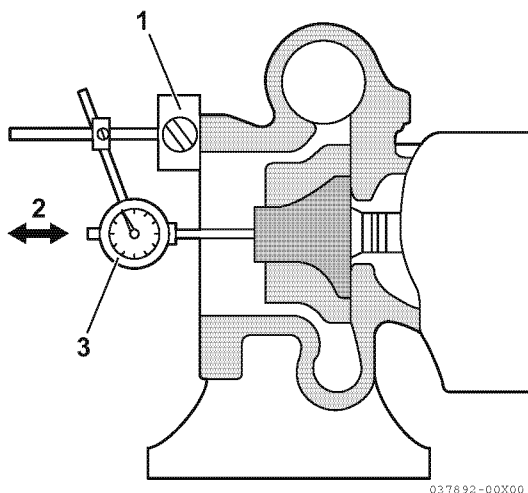

Figure 10-4
1. Set up a dial indicator as shown (**Figure 10-4**).